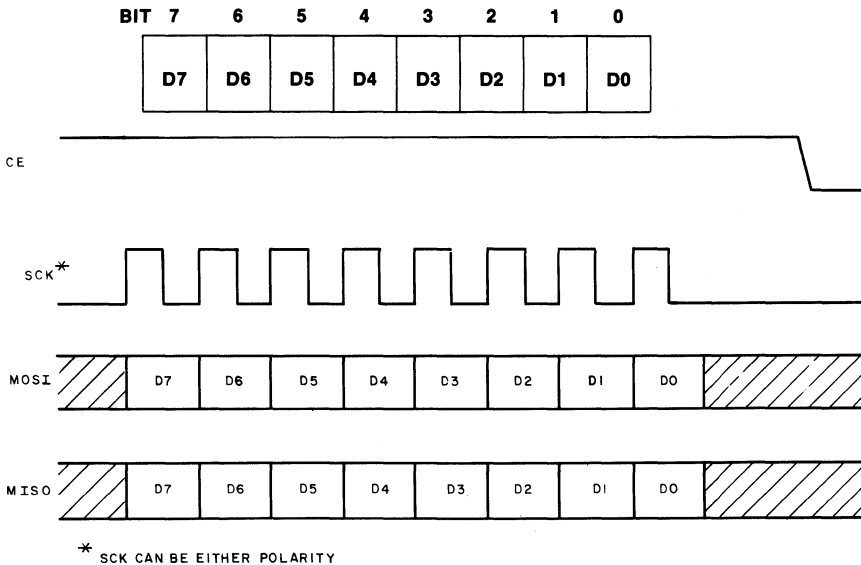

Fig. 9 - Read/Write data transfer waveforms.
2. READ or WRITE Data - Fig. 9
**READ/WRITE DATA - (See Fig. 9.)**